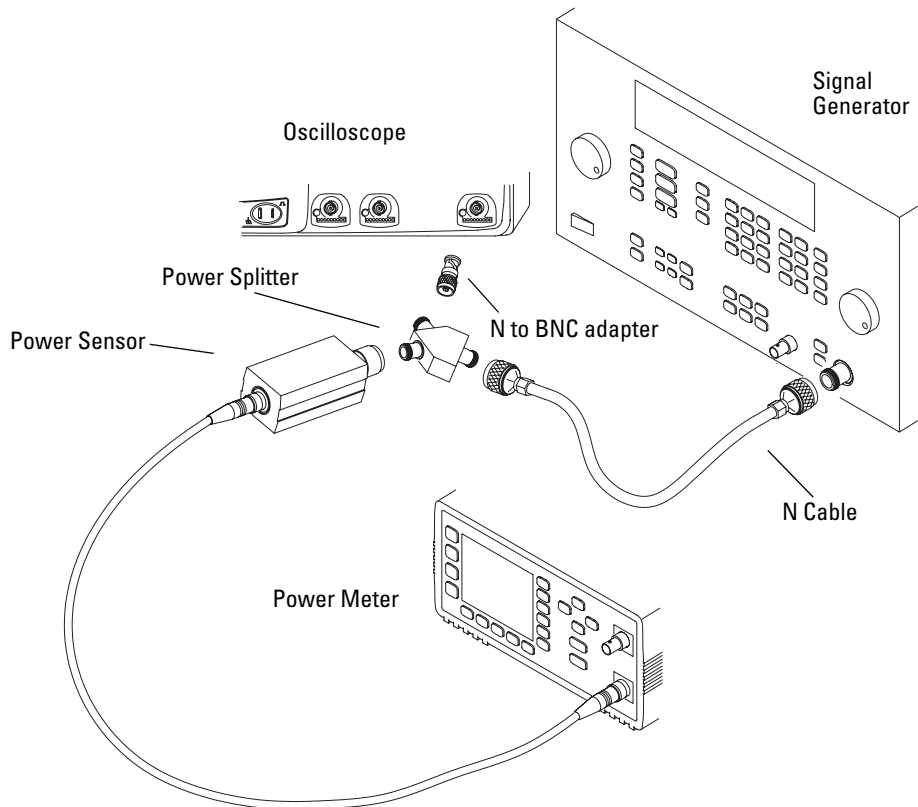

Figure 5 Connect equipment for external trigger sensitivity test (2-channel models)
- 1 Connect the equipment (see Figure 5).